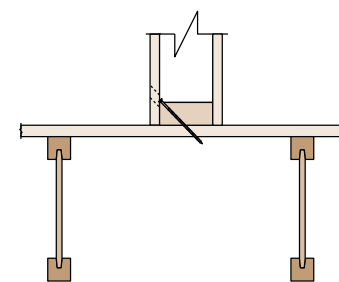

Figure 20
- **If not accessible from the underside**, remove the baseboard along the partition and drill a pilot hole (larger than the screw shank) through the bottom plate of the partition at a 45 degree angle. Install a screw to catch and pull the floor sheathing up to the partition (Figure 20).